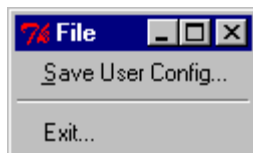

Figure 5-2. File Menu with Exit Selection
1. Click the File menu. A drop-down menu appears. Figure 5-2 shows the File menu and the Exit selection.